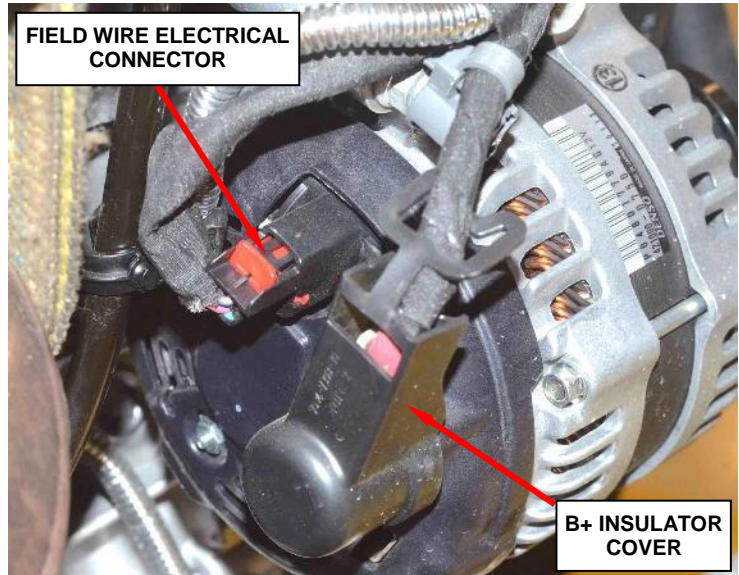

Figure 6 - Alternator Electrical Connections
3. Depress the field wire connector locking tab at the rear of the alternator and disconnect the field wire connector (Figure 6).
4. Remove and save the insulator cover from the B+ output terminal at the rear of the alternator (Figure 6).
18. Install the B+ terminal to the alternator stud. Tighten the retaining nut to 13 N·m (115 in. lbs.) (Figure 6).
19. Install the insulator cover over the alternator B+ terminal (Figure 6).
20. Plug in the field wire electrical connector to the alternator (Figure 6).